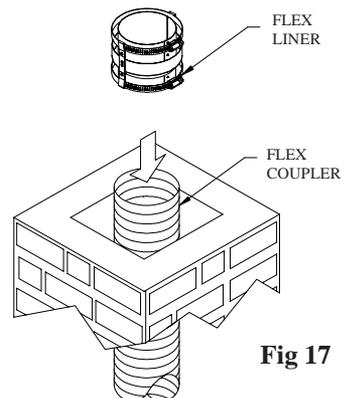

Fig 17
Step 1. In addition to the Flex you will need a Pellet Vent Cap (for oil or pellet vents) or a Gas Vent Termination Cap (Standard or High Wind), Storm Collar, Top Plate, Flex Connector, and rigid pipe to extend the cap as needed. (**Figures 17, 18**)
Step 2. Attach the Flex Connector to the Flex Liner and secure the fast connect band, then insert Pipe Section into the large end of the Flex Connector. Be sure inner liners are properly aligned, then push the two together until the outer diameter of rigid pipe is firmly against large end of Flex Connector, then secure upper fast connect band, as shown in **Figure 17**.
Step 3. After attaching a suitable double-wall Type B or L Vent Pipe Section to the Flex Liner with the Flex Connector, seal the Top Plate to the masonry chimney using non-hardening sealant. Slide the appropriate Storm Collar over the Pipe Section, until the proper length of pipe extends above the chimney. Always have a minimum of 12 inches of rigid pipe below the Top Plate for stability. Attach the Storm Collar to the rigid Pipe Section with (4) 1/4-inch long